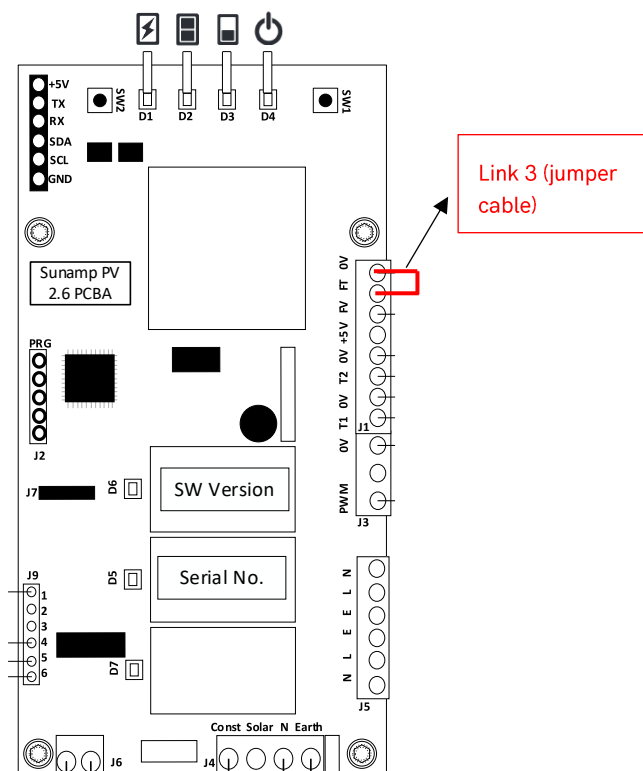

Figure DN.1 – Link 3 installed between FT and 0V at connection J3 on the controller PCBA
- Thermino xPlus with the “DN01” & “DN02” Optimino keys (D0084 – Section 6.4.2 for wiring instructions & Figures DN.1 & DN.2 below)